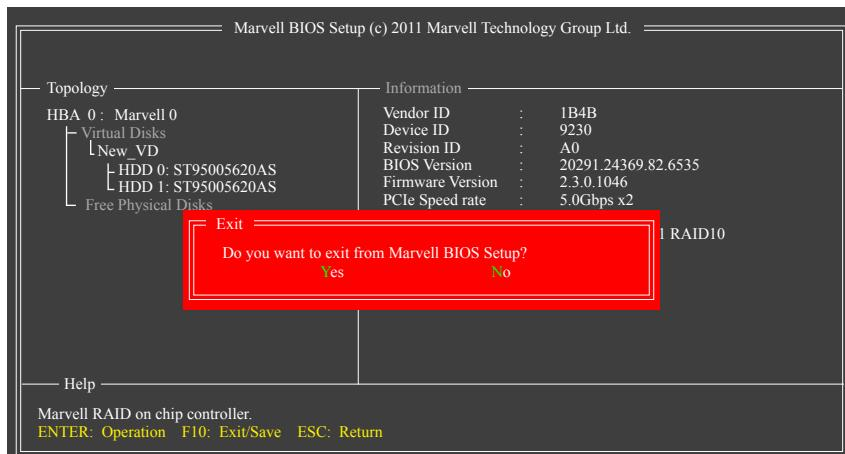

Figure 7
- 5. Save the Settings and Exit.** After you complete the RAID configuration and before you exit the configuration screen, be sure to press <F10> in the main screen. Press <Y> to confirm or <N> to cancel (Figure 7). Now, you may proceed to the installation of the SATA driver and operating system.